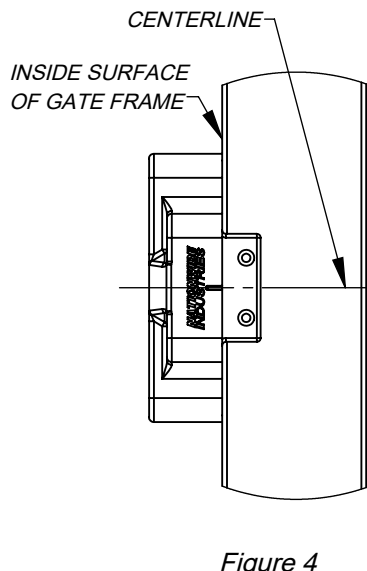

Figure 4
2) Hold the Adapter Housing to the inside surface of the gate frame to use it as a template for marking the holes, and align with the centerline marked in Step 1 (Figure 4). Mark the top and bottom holes for the threaded standoffs, as well as the spindle hole near the lower threaded standoff hole. The holes marked in this step should be aligned with the holes marked in Step 1.
3) From the outside surface of the gate, drill the (2) threaded standoff holes (5/16" diameter min.) and the (1) spindle hole (1/2" diameter min.) marked in Step 1. From the inside surface of the gate, drill the (2) threaded standoff holes and the (1) spindle hole marked in Step 2. At this point, there should be (3) holes that pass all the way through the gate, allowing the KYPD Outside Body and Inside Body to be connected in later steps.
4) Hold the Adapter Housing to the outside surface of the gate and aligned with the clearance holes. Using (3) #8 x 1" flat head phillips screws, attach the Adapter Housing to the gate using the front countersunk hole and the side-mounting countersunk holes.